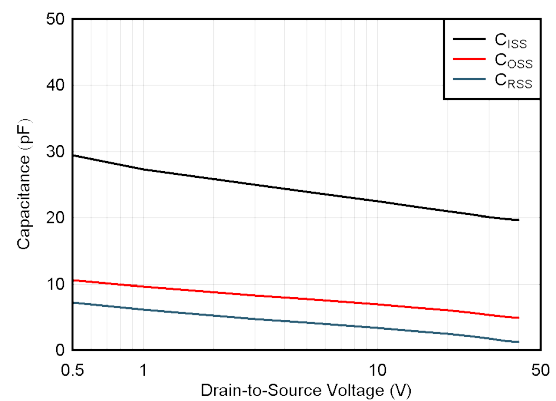

图 6-12. Input, Output, and Reverse Transfer Capacitance vs Drain-to-Source Voltage
Most previous-generation JFET devices featured only three pins (gate, source, and drain). For these devices, the gate pin is in the same physical location as the VCL pin on the JFE150. To test the JFE150 in a three-pin socket, short pin 2 of the JFE150 (VCL) to pin 3 (G). When the devices are connected with pin 2 shorted to pin 3, the diode from VCL is shorted out and cannot provide any clamping protection. The input capacitance ( $C_{ISS}$ ) also increases by 1 pF; see 图 6-12.